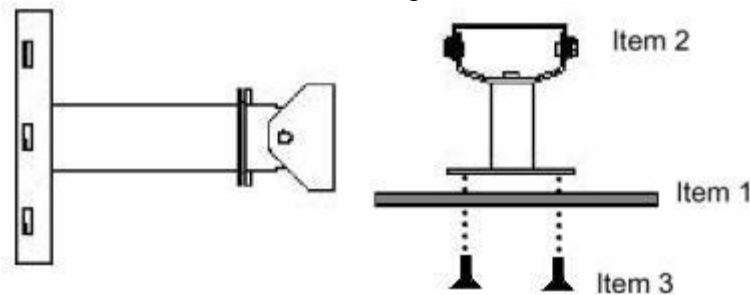

Figure 1 Bracket Assembly
Secure stainless steel mounting plate (item 1) to sensor mount bracket (item 2) with enclosed tapered mounting fasteners (item 3) as shown in Figure 1.